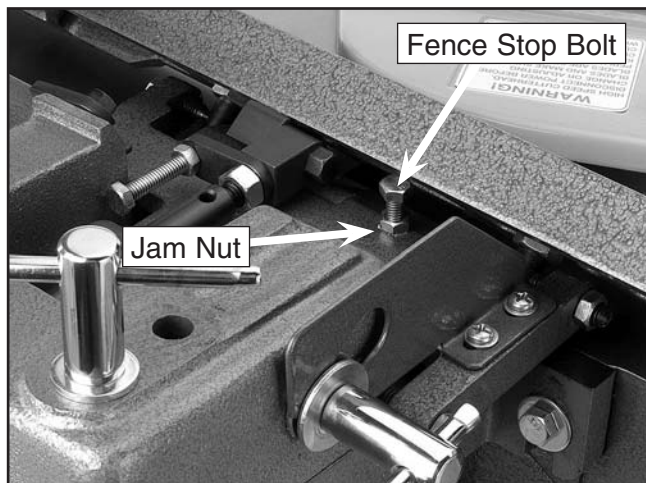

Figure 53. 45° outward fence stop jam nut.
2. Loosen the jam nut on the 45° outward fence stop bolt (**Figure 53**).